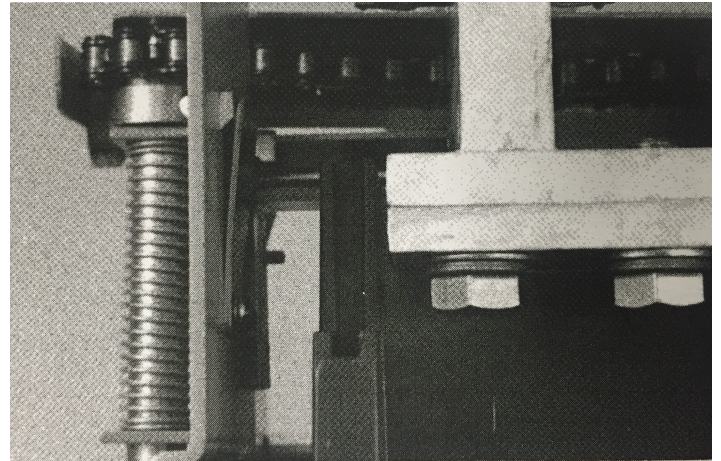

Figure 7 Installation of the detent cam on a draw-out breaker (offset screwdriver required).
14. (For installation in a stationary breaker, skip to step 16.) Slide the detent cam into the carriage side frame from the inside. Install one or two detent cam springs, as supplied, onto the inside of the carriage side frame and secure with two recessed pan-head #8-32, $\frac{3}{8}$ -inch screws and lock washers, as illustrated in Figure 7. Tighten the screws to 20 in-lb. The springs are bent and must be installed with the bend away from the steel frame to apply the minimum force against the detent cam.